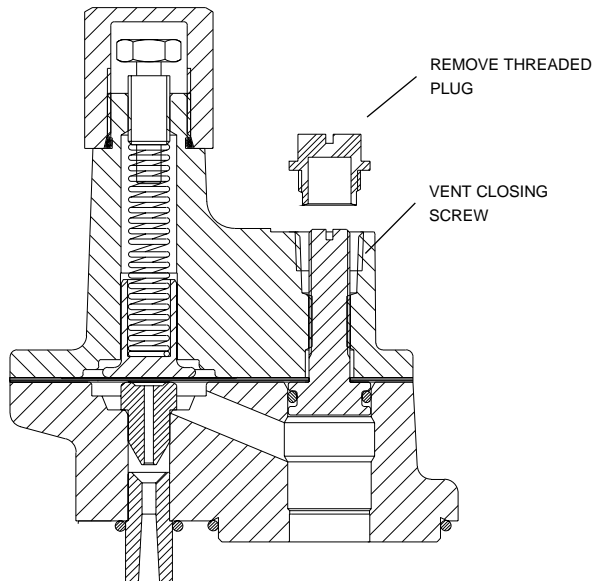

Figure 3.1 Closing the check valve
- 2: Close pump check valve by turning the vent closing screw as far down as possible. (See Fig 3.1)